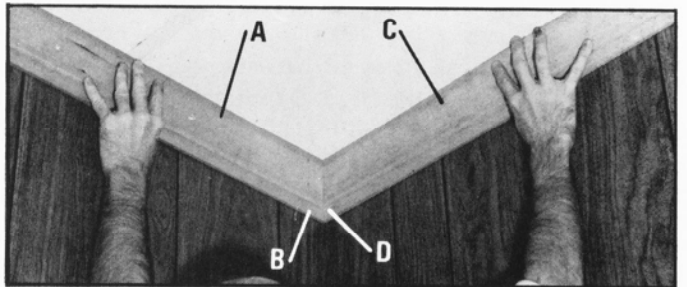
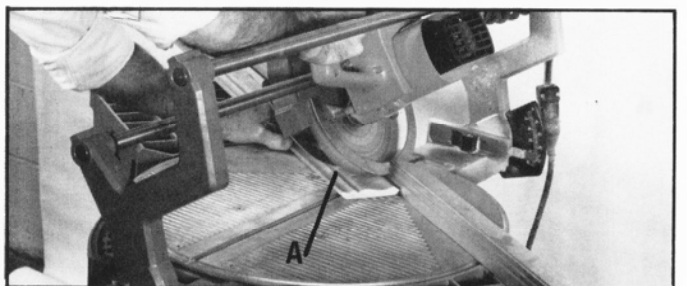
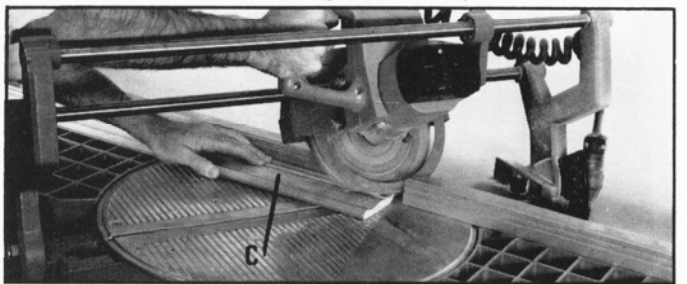

Fig. 63
Fig. 64
Fig. 65
A finished inside corner crown moulding is shown in Fig. 63. To perform these two cuts, proceed as follows:
1. Set the track arm to the 31 5/8 degree right miter position and tilt the saw blade to the 33 7/8 degree bevel position, as shown in Fig. 64.
2. Place the crown moulding (A) Fig. 64, on the saw and make the cut as illustrated. Piece (A) Fig. 64 is the left hand piece shown at (A) Fig. 63. NOTE: The long end of the cut (B) Fig. 63, is positioned away from the fence.
3. Rotate the arm to the 31 5/8 degree left miter position as shown in Fig. 65. NOTE: The saw blade is still tilted to the 33 7/8 degree bevel position. Piece (C) Fig. 65 is the right hand piece shown at (C) Fig. 63. To cut piece (C) Fig. 63, the long end of the cut (D) Fig. 63, is positioned against the fence, as shown in Fig. 65.